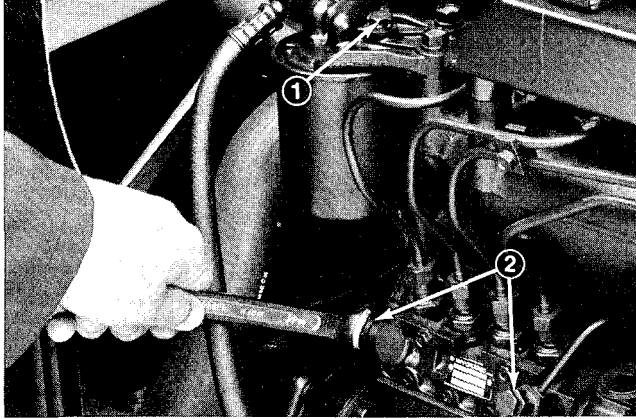
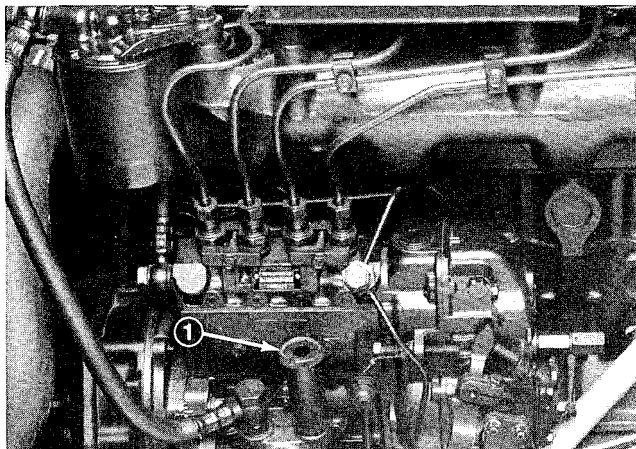

Figure 24
Figure 25
3. Loosen (3) air vent plugs on the engine fuel filter assembly about 1–1/2 turns (Fig. 24).
4. Rotate priming pump (Fig. 25) counter-clockwise until spring in pump assembly releases. Operate pump up and down until a solid stream of fuel flows out around filter plug and tighten plug.
5. Loosen air vent plug on injection pump about 1–1/2 turns (Fig. 24). Operate priming pump until solid stream of fuel flows from the vent hole (Fig. 25), then tighten air vent plug.